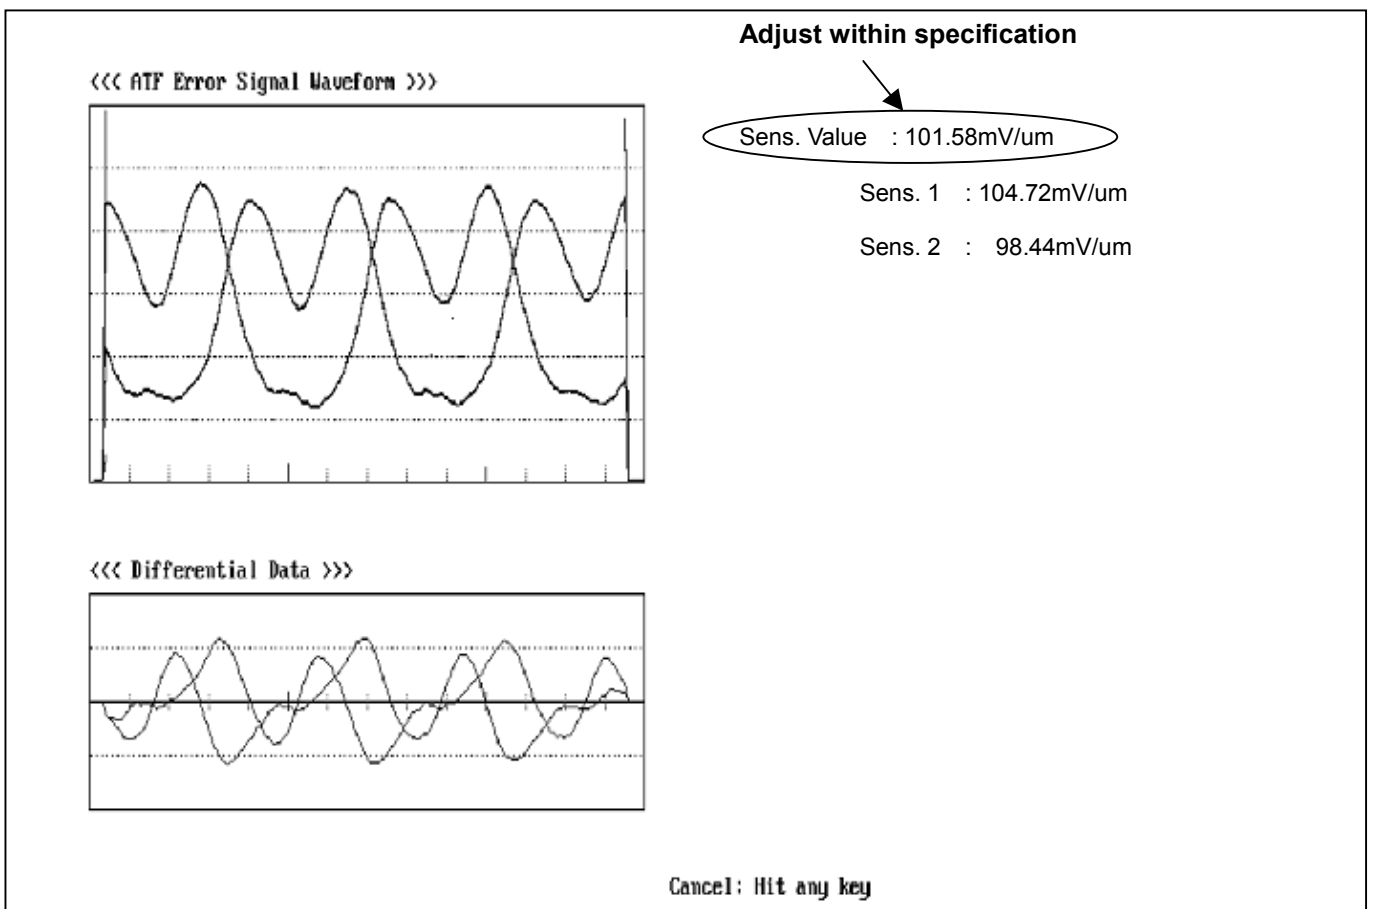

Figure 3-35-1
3. Select the LISTA (6) ATF Error Signal Monitor so that the screen of <ATF Error Signal monitor> appears. Then press Enter to start the software.
4. When the picture is appeared as shown in figure 3-35-1, adjust ATF Gain (A12: RPL GAIN 50) so that the "Sens. Value:" is in the Specification. To return the main menu, press ESC key.
5. Select Lista Main Menu "(1) Sensitivity Measurement" so that the screen of <ATF Error Signal monitor> appears.